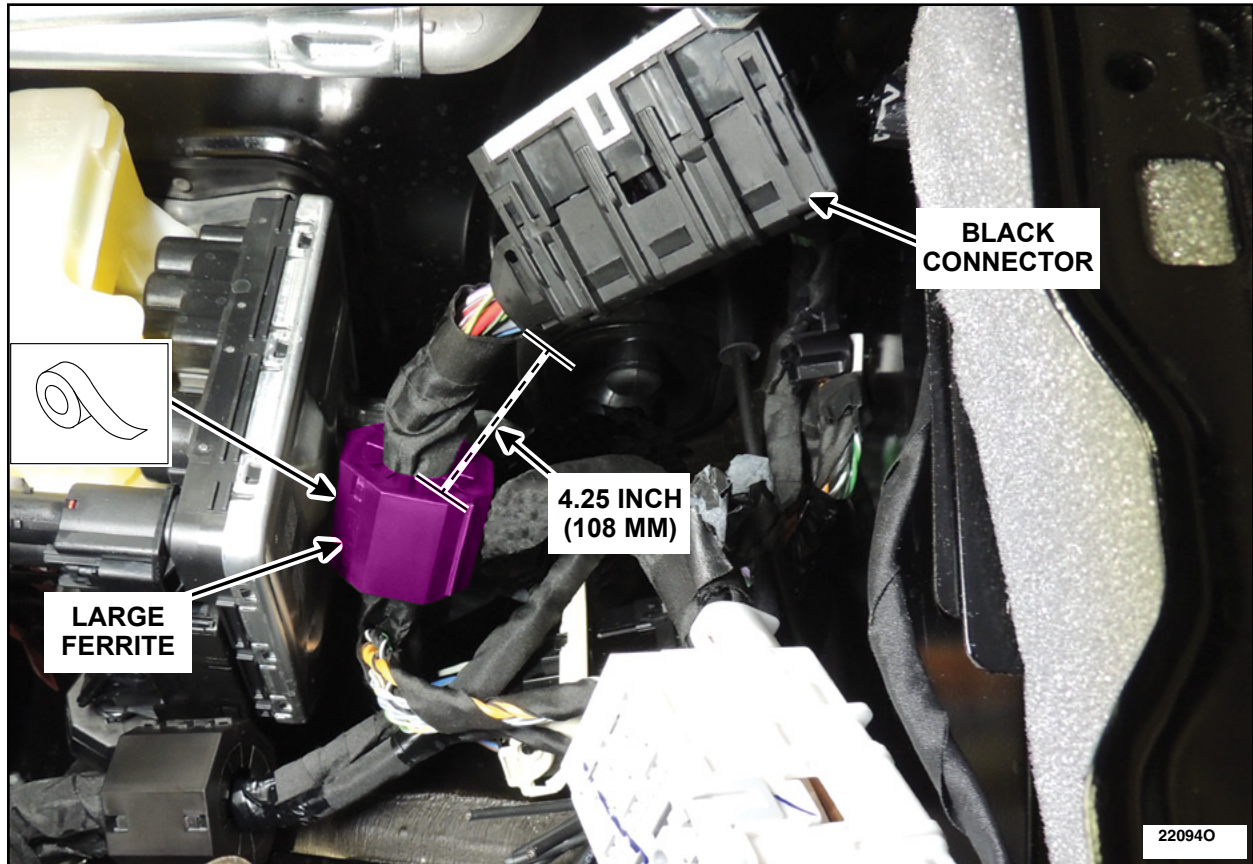

FIGURE 16
22. Measure 4.25 inches (108 MM) from the back of the black connector. Install a **LARGE** ferrite (item A) to the wiring harness in the designated location. See Figure 16. Apply 3 wraps of Coroplast® tape around the ferrite to secure it closed.